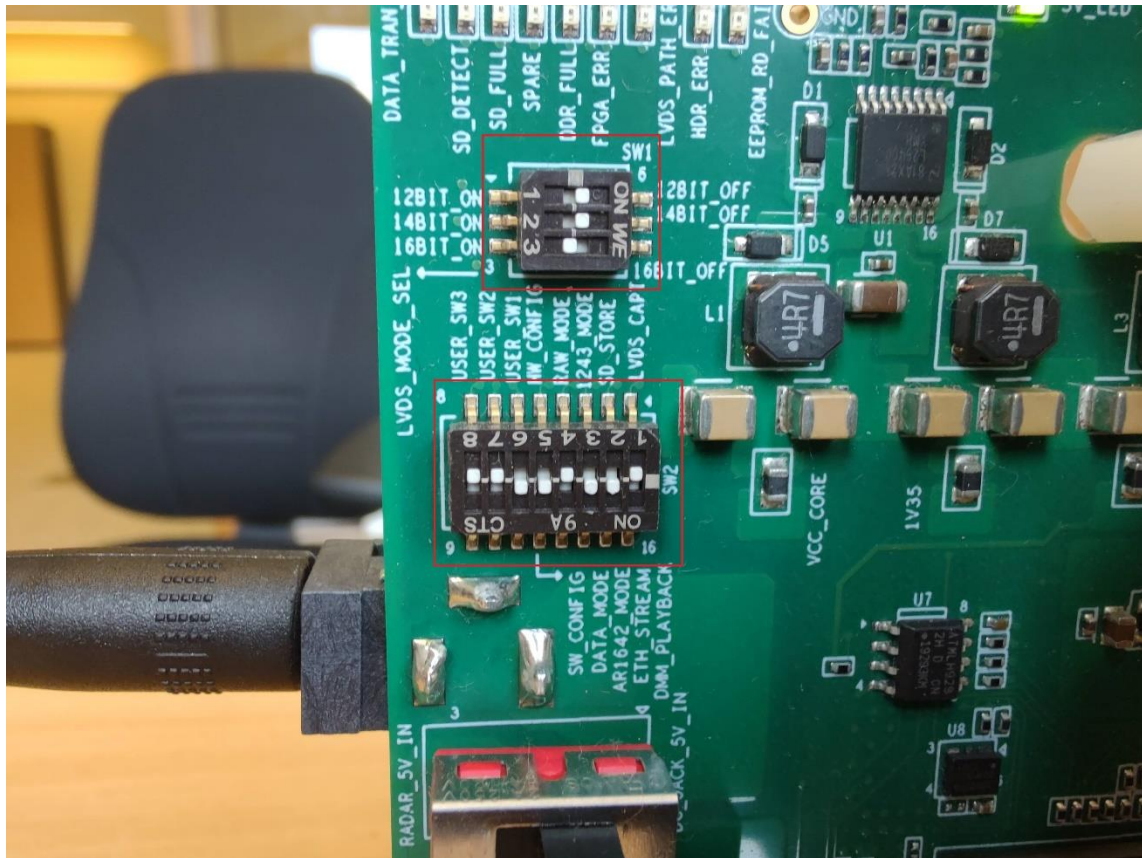

Figure 5: Switches SW1 and SW2 on DCA1000
- a. Set of switches in SW1 and SW2 to put like in the picture of Fig. 5 :
- i. SW1 : 1. Right 2. Right 3. Left (when looking like in the picture of Fig. 5)